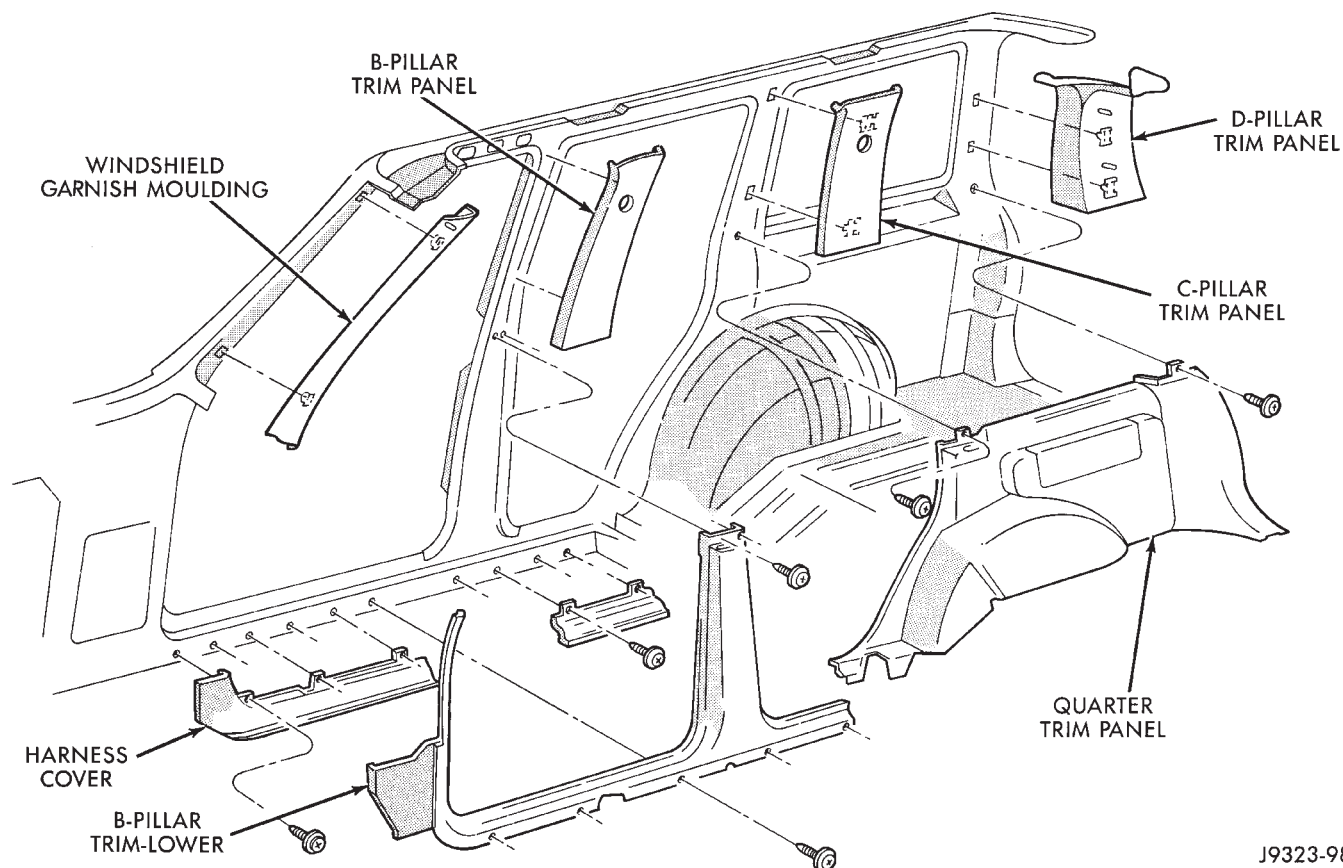

Fig. 22 Trim Moldings
- (1) Remove the A,B,C and D-pillar trim moldings from perimeter of headliner (Fig. 22).
(5) Install A,B,C and D-pillar trim panels (Fig. 22).